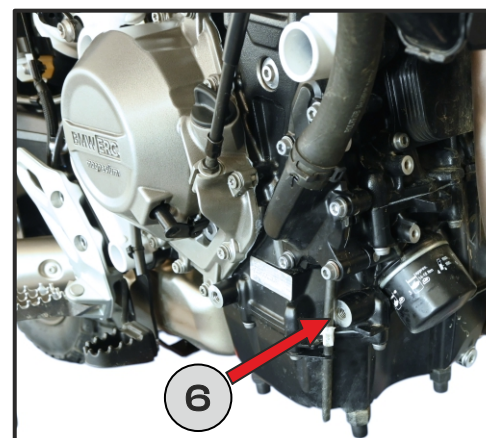
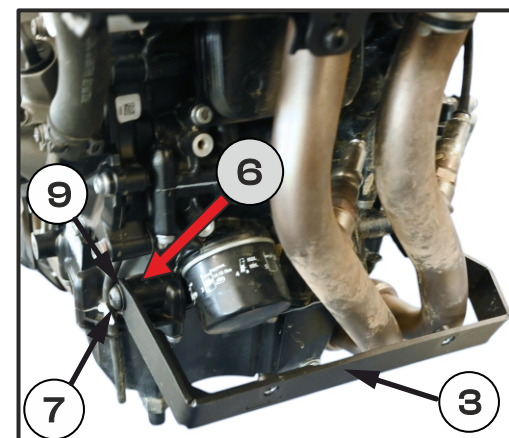

Fig. 10
Fig. 11
6. Install and loosely fasten the Front Bracket [3] using bolts [7] and washers [9] on both sides of the motorcycle. **[Fig. 10], [Fig. 11]**